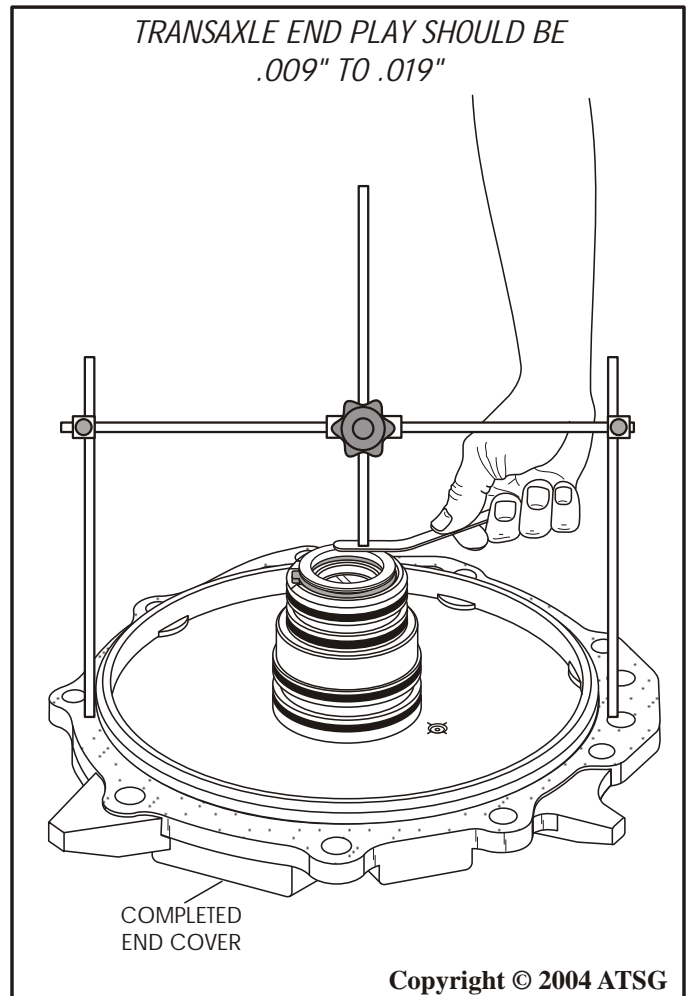

Figure 174
44. Turn the "H" gauge over and set on top of the end cover with selective and bearing in place, as shown in Figure 174.
45. Measure between the stem of "H" gauge and the bearing surface, as shown in Figure 174, to check transaxle end play.
46. Transaxle end play should be .009" to .019", as shown in Figure 174.